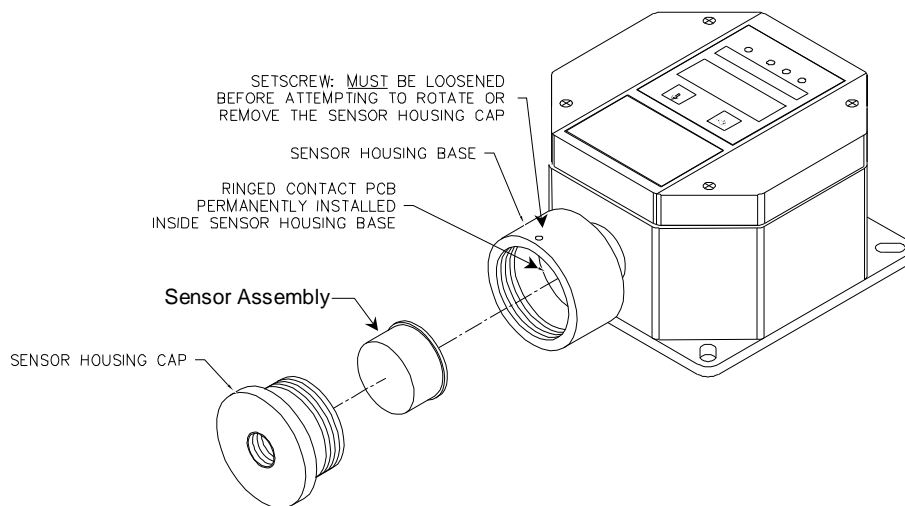

Figure 8: SE-5175 Sensor Replacement
1. Remove, the set screw from **SE-5175** sensor head, and remove sensor cap. See Figure 8
2. Remove, the sensor assembly, see **Figure 8**.